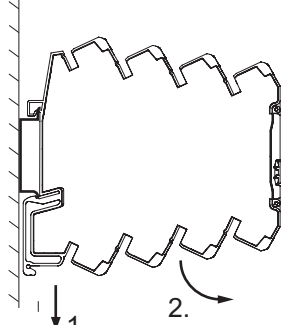

Figure 2: Removal
- To remove (see Figure 2) pull down the snap-in mounting foot (c) [1]. Use a screwdriver or an operating tool for this.